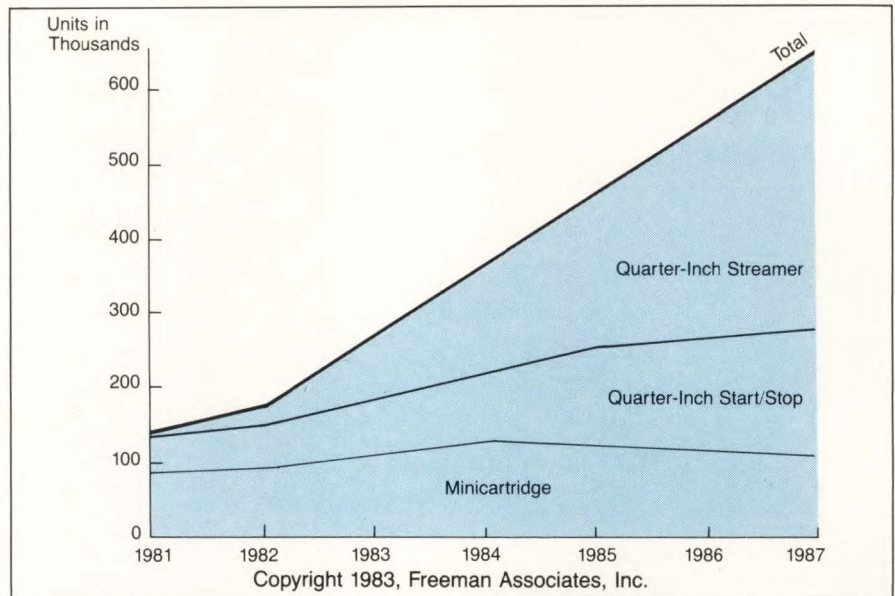

Figure 3: Projected worldwide shipments of cartridge tape drives.
latest Freeman Associates report, entitled “Computer Tape Outlook—1982, Volume 1” (available from Freeman Associates, 311 E. Carrillo St., Santa Barbara, CA 93101. (805) 963-3853. \$1250.) predicts shipments of cartridge drives to grow at a 30% annual compounded rate. This represents a jump in unit sales from 175,000 units in 1982 to 650,000 units in 1987. In addition, by 1987 Freeman expects half the volume to be in the streaming category (**Figure 3**).